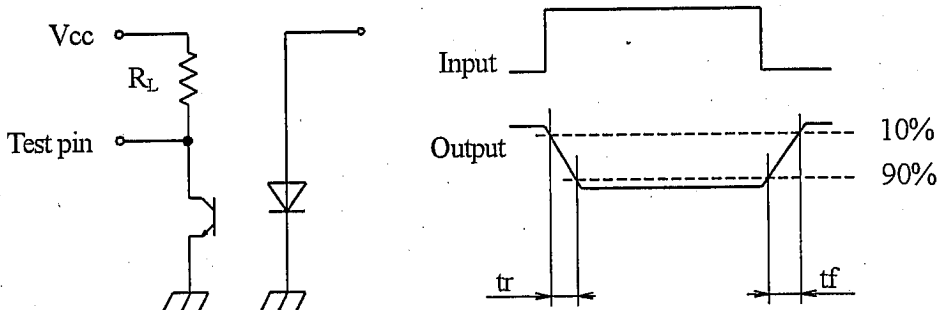

Fig.1 Forward current vs. ambient temperature
- \*1 The derating factors of absolute maximum ratings due to ambient temperature are shown in Fig. 1, 2, 3.